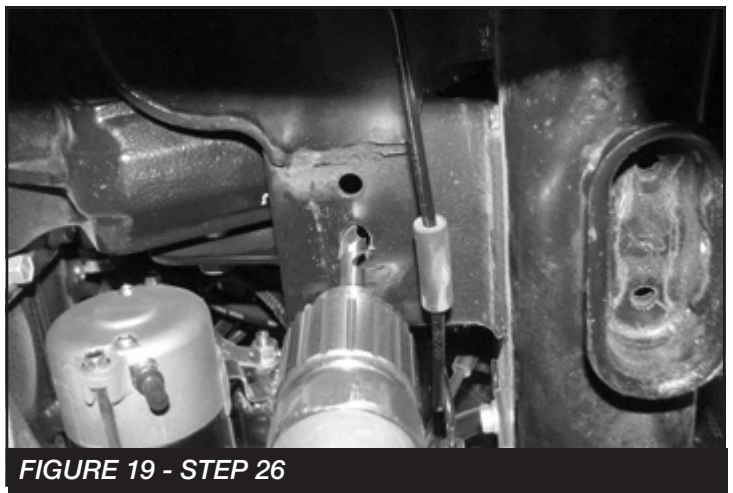

FIGURE 19 - STEP 26
26. Using a 1/2" drill bit, drill out the hole in the factory crossmember inline with the factory bump stop mount. **SEE FIGURE 19**